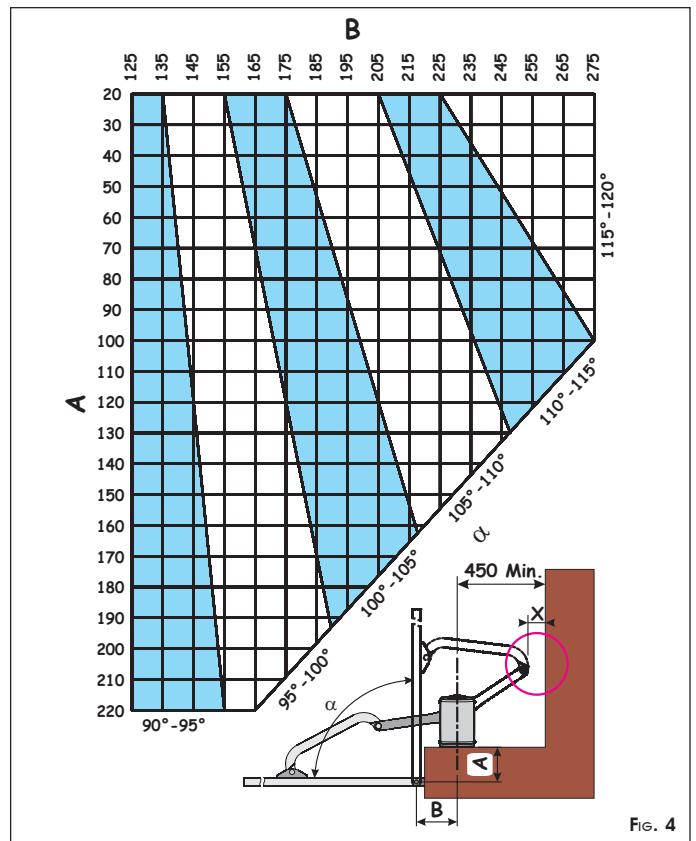

FIG. 4
Procedure for finding the securing position of the operator, using Fig.4 to help you:
- Make sure that the minimum dimension of 450mm in Fig.4 is observed.
- When the operator has been installed, check if dimension "X" in Fig.4 is minimum 500 mm. If dimension "X" is less than 500mm, run an impact test on the point indicated in Fig.4, as described in UNI EN12445 standard, and make sure that the measured values conform to the specifications of UNI EN 12453 standard.
- If the thrust values are not within the values specified in UNI EN12453 standard, the zone indicated in figure 4 MUST be protected with a protective device conforming to the UNI EN12978 standard.